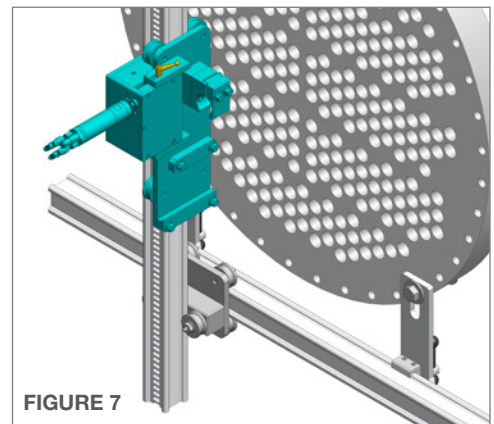

FIGURE 7
- Loosen the **Quick Adjust Handle** and pull the gearbox away from the carriage plate. This will allow the **Vertical Drive Carriage** to slide onto the rail without pneumatic power to rotate the drive. Center the carriage on the vertical rail and push the gearbox back toward the carriage plate. This will engage the gear into the rail slots. Verify the gear is engaging the slots correctly and tighten the adjustable handle. **(Figure 7)**